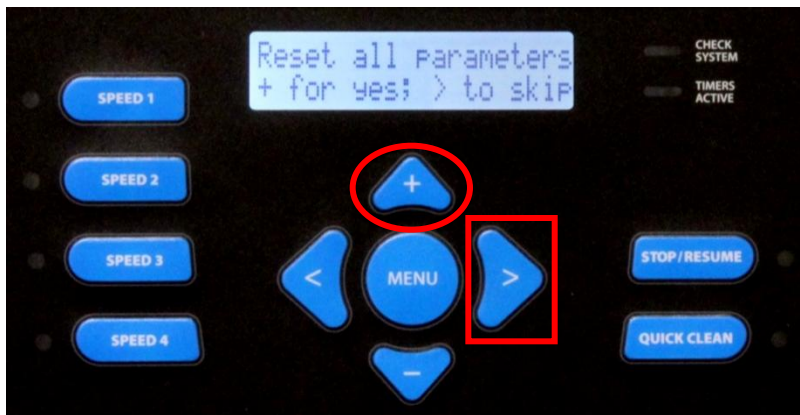
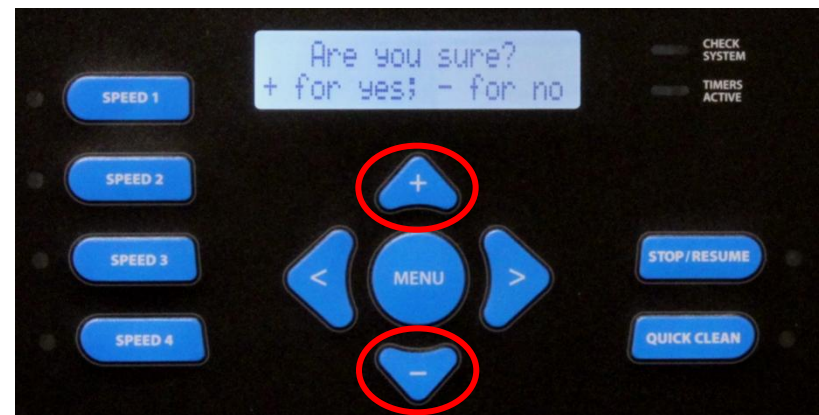
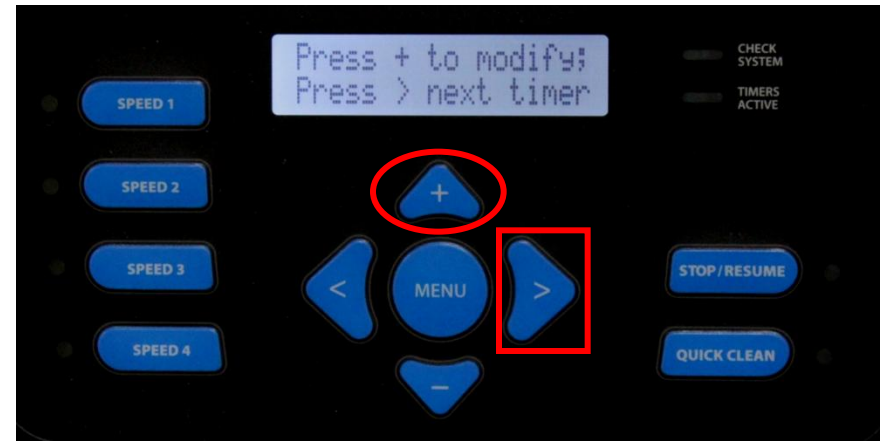

Fig 49
Fig 50
Fig 53
- At this point you will be asked if you would like to reset to the default parameters (factory settings) (fig 49). If yes, press  and confirm on the next screen. If no, press the  button to continue (fig 50).
- This screen (fig 53) will alternate with fig 49 on the previous page. This screen tells you to use the  button to modify the timer setting or the button  to go to the next timer.